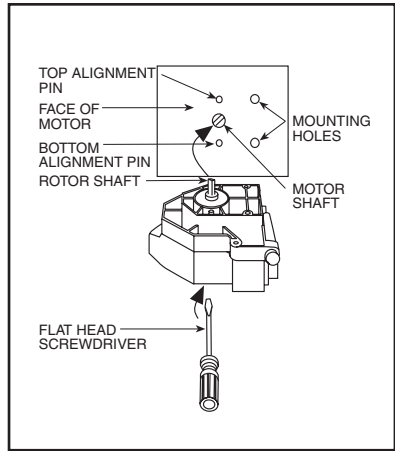

Figure 3-2. Aligning the Rotor Shaft
2. Refer to Figure 3-2 and Figure A. Place the blade of a flathead screwdriver in the groove of the Rotor Shaft (5). Rotate the Rotor Shaft until its back tab slips into the groove of the motor shaft. Do not try to force the pump onto the motor until you perform Step #3.